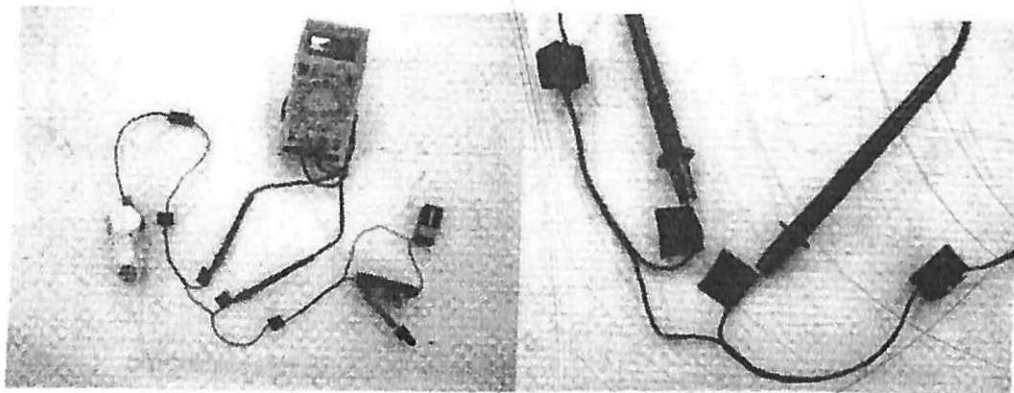

Figure 5.4.3. Experimental design used during this activity.
2. Repeat step #1 and make three modified cables to build the circuit shown in Figure 5.4.3. NOTE: on the next pages we show an alternative step that allows you to build the circuit while only modifying two RCX cables.
3. Connect the battery, motor, multi-meter, and optional switch as shown in Figure 5.4.3.